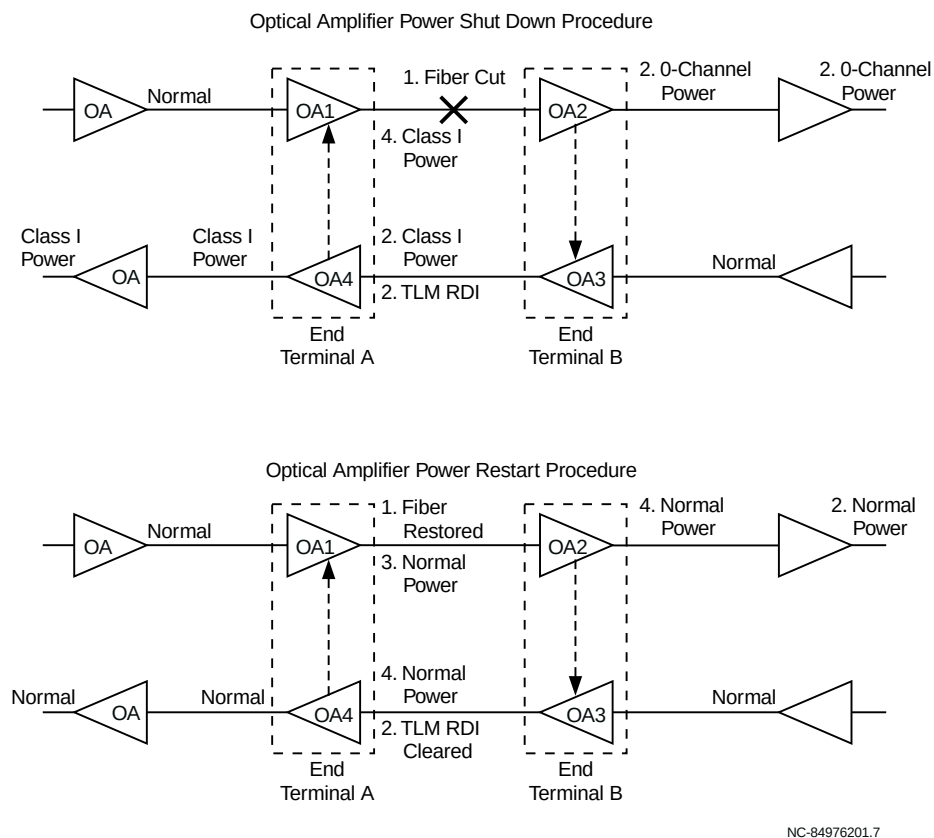

Figure 9-1. Automatic Optical Amplifier Power Shut Down and Restart Example
Figure 9-1 shows an example of automatic power shut and restart in a WaveStar OLS 40G with two OA circuit packs.
In Figure 9-1, when the (1) fiber cut occurs, the End Terminal B detects an incoming loss of signal. (2) The OA2 circuit pack powers down to the 0-channel level and (2) the OA3 circuit pack powers down to Class I levels with a fiber cut. (3) The OA3 circuit pack also transmits a telemetry remote defect indicator (TLM RDI) signal downstream. End Terminal B also reports the APSD active - NE condition. When End Terminal A detects the TLM RDI signal, (4) the OA1 circuit pack powers down to Class I levels. End Terminal A also reports the APSD active - FE condition.
In Figure 9-1, when the (1) fiber cut is repaired, (2) the End Terminal B clears the incoming loss of signal, TLM RDI signal, and the APSD active - NE condition. When the End Terminal A detects no TLM RDI signal, (3) the OA1 circuit packs power up to normal levels. End Terminal A also clears the APSD active - FE condition. (4) The OA2 and OA3 circuit packs also power up to normal levels.